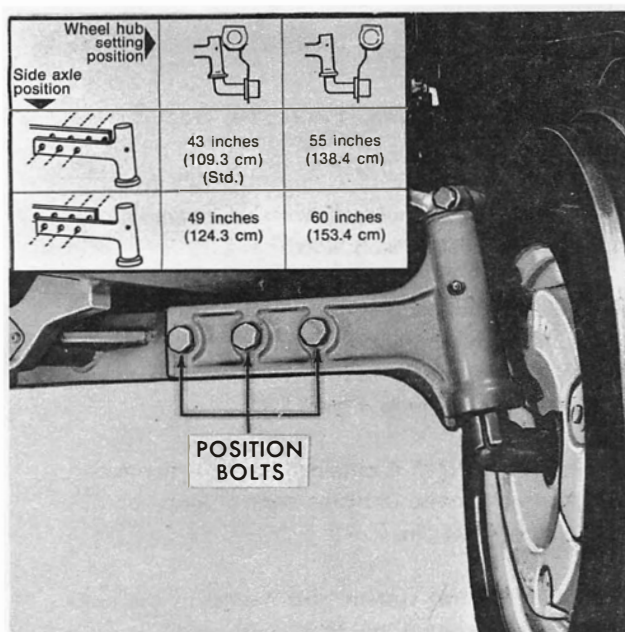

Figure 15
The front wheel tread setting is adjustable from 43 to 60 inches (109.3-153.4 cm) in approximately 6 inch (15.2 cm) increments by a combination of repositioning the front axle and reversing the front wheels. See Figure 15. To reposition the front axle:
3. Remove the positioning bolts, Figure 15, and move the axle sections in or out until the desired setting is obtained, then reinstall the positioning bolts.